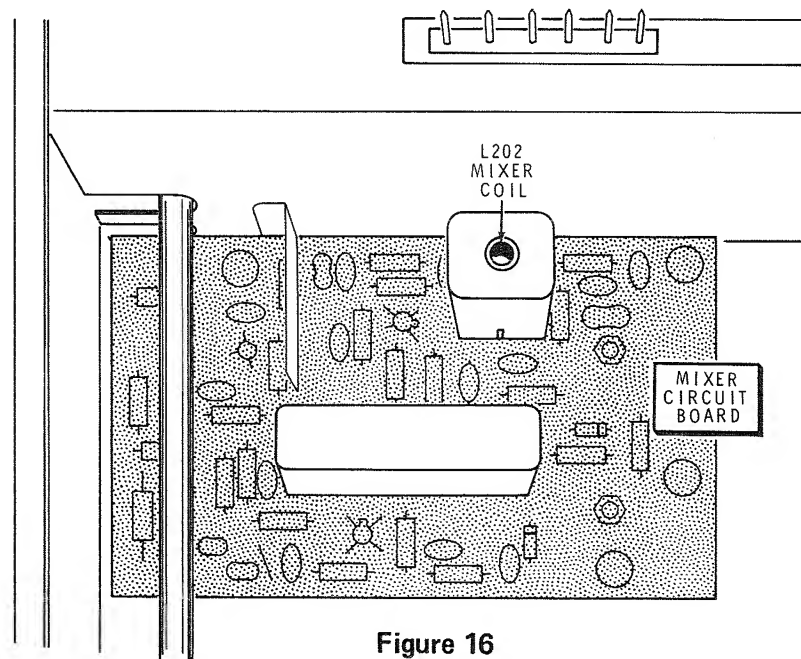

Figure 16
- ( ) Refer to Figure 16 and adjust mixer coil L202 for a maximum S-meter reading.